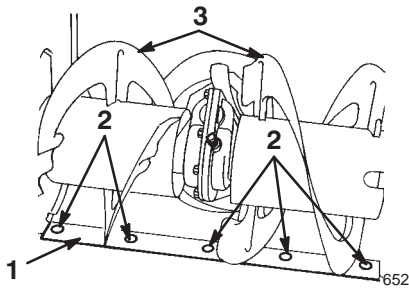

Figure 23
6. Support the *auger blades* so that they are 1/8 inch (3 millimeters) off the ground (Fig. 23).
8. To adjust the scraper, loosen the 5 mounting screws (Fig. 23), level the scraper, and tighten the mounting screws.